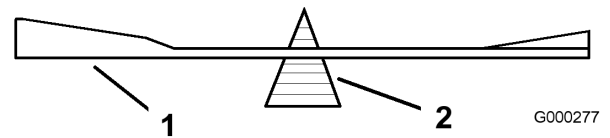

Figure 59
2. Check the balance of the blade by putting it on a blade balancer (Figure 59). If the blade stays in a horizontal position, the blade is balanced and can be used. If the blade is not balanced, file some metal off
the end of the sail area only (Figure 59). Repeat this procedure until the blade is balanced.